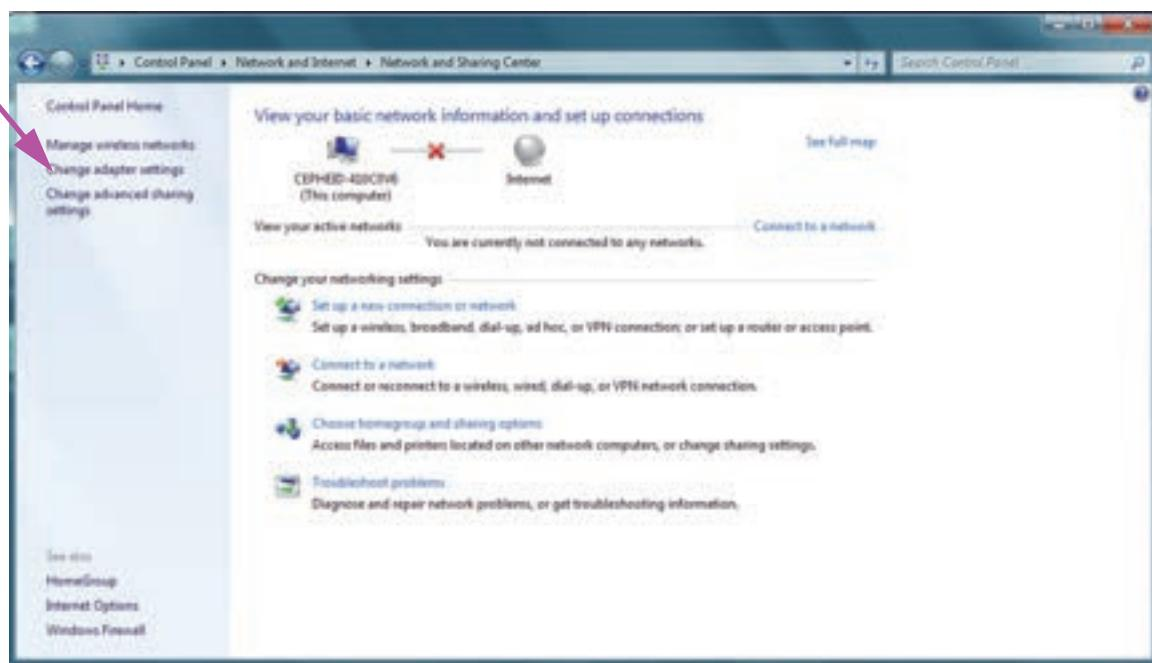

Figure 2-38. Network and Sharing Center Screen
4. Click **View network status and tasks**. The **Network and Sharing Center** screen appears. See Figure 2-38.